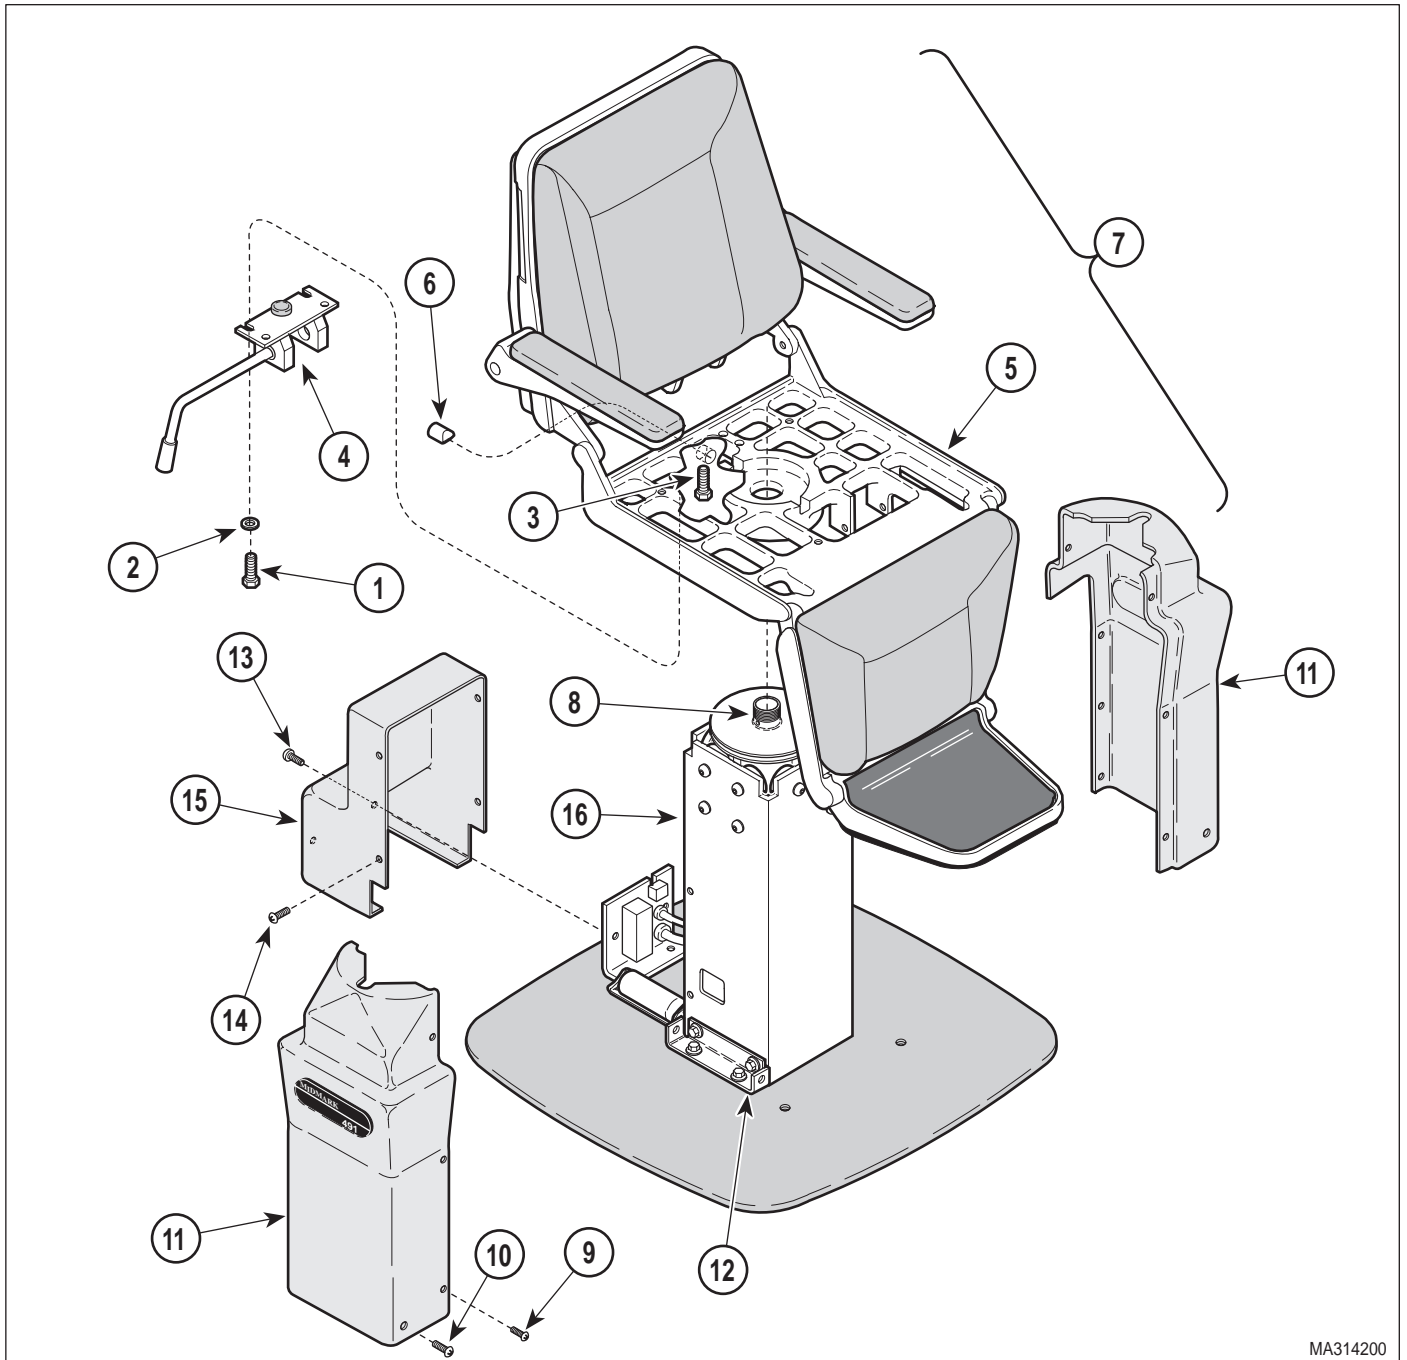

Figure 4-13. Shrouds and Motor Cover Removal / Installation
- (1) Remove thrust bearing (Refer to para 4.7).
- (2) Remove two outside bolts (1, Figure 4-13) and lockwashers (2).
- (3) Loosen two inside bolts (3) and remove brake assembly (4) from seat casting (5).
- (4) Remove stop (6) from seat casting (5).
- (16) Install motor cover (15, Figure 4-13) on elevation column (16) and secure with four screws (14) and two screws (13).
- (17) Install R.H. and L.H. shrouds (11) on base mounts (12) and secure with four screws (10) and four screws (9).
- (18) Coat top surface of slide weldment (8) with vaseline.